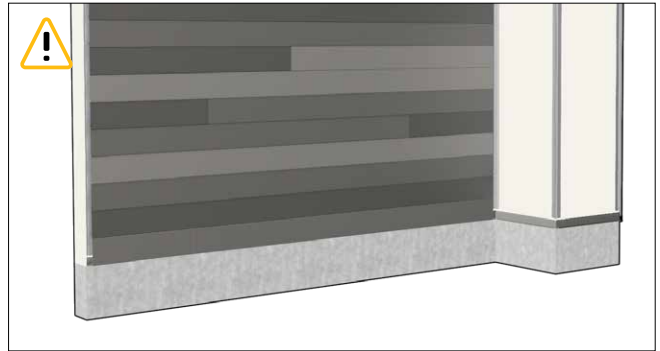

Figure 20.1
20. To ensure variation of the woodgrain pattern, select Planks from different packages of your order to be installed adjacent to each other. Do not use identical patterns on successive rows. (Figure 20.1)
Do not Install planks with the same patterns next to each other to avoid looking fake and repetitive. (Figure 20.1)